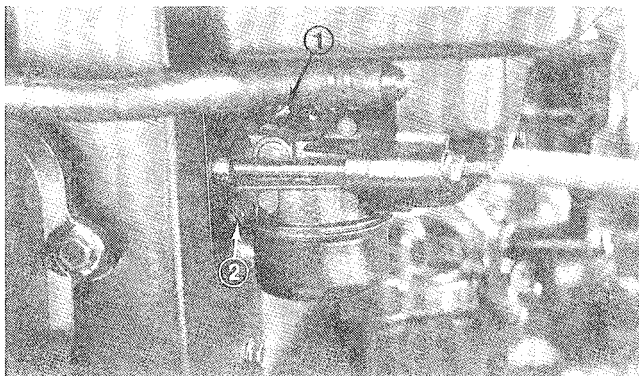

Figure 20
1. Idle Fuel Screw (Fig. 20) — Close screw by gently rotating it clockwise.
2. Rotate — open — the screw 1 turn counterclockwise (Fig. 20).
4. Idle Speed Screw (Fig. 20) — Set the idle speed to 1200 rpm (± 75 rpm) by turning the idle speed screw in or out. Check speed with a tachometer.
5. Idle Fuel Screw (Fig. 20) — With throttle in slow position, turn screw out (counterclockwise) until the engine speed decreases (rich). Note position of the screw.